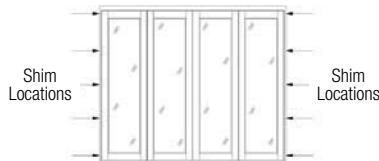

FIG. 14
- H) Shim jambs at each corner, at each well pivot and in line with each panel hinge elevation. Place enough shims so that there is no more than 24" between any two shims. See Fig. 14 for minimum shim placement.